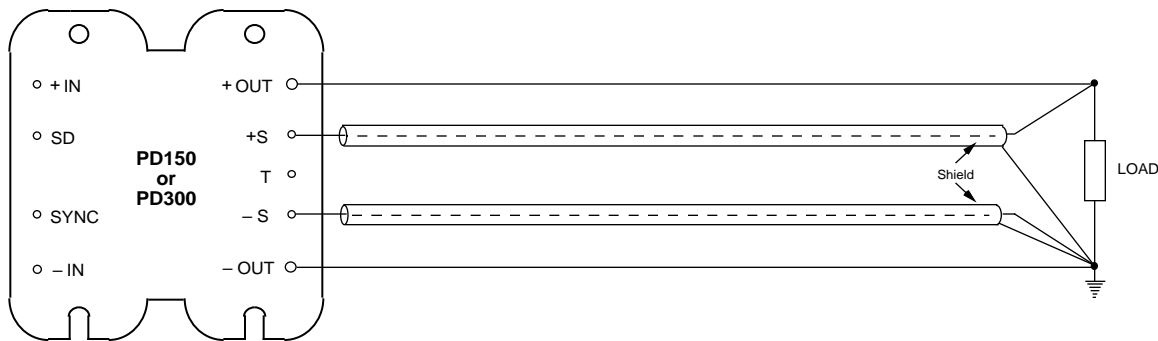
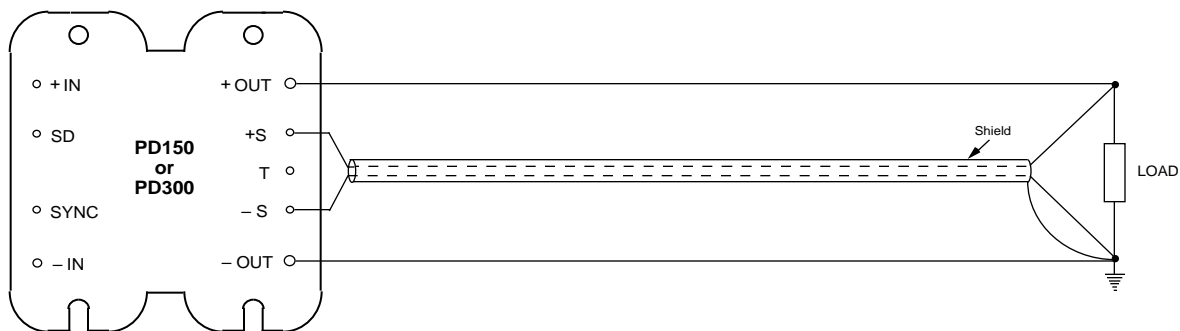
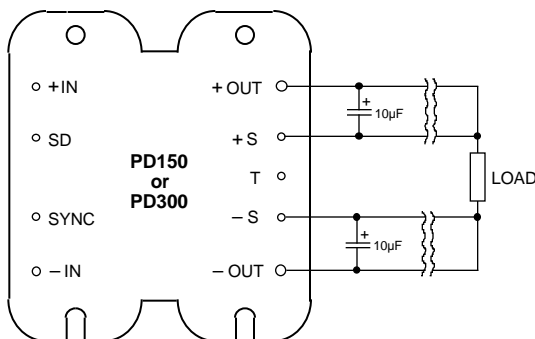

Figure 5. Remote Sensing Connections (using separate shields)
Figure 6. Remote Sensing Connections (using single shield)
Figure 7. Long-Load Connection
Connection of the sense leads is shown in Figures 5 and 6. There is one lead for each output terminal, designated as +S and –S. Compared to the load leads, the sense leads carry very low current and are usually shielded as shown to prevent noise pickup by the regulation circuit of the power supply. The current fed back from the load will adjust the output of the converter to keep the voltage constant at the load. The shielding on the sense leads is used to prevent the noise pick-up and is needed only if the load is more than three (3) feet from the DC-to-DC converter or in a highly noisy environment. Two separate shields for each sense lead (Figure 5) or a single shield for both sense leads (Figure 6) may be used. The PD150 can compensate for load conductor drops of up to 0.5V by producing a higher output voltage at the supply terminals, so that the voltage at the load is precisely the correct value. If the voltage drop across the output lines is greater than 0.5V, the remote sense network will not be able to compensate for it.
For applications where the load is too far away (12 feet or more) from the power supply, the inductance from long lines together with capacitance at the load could cause instability. This can be compensated for by using two by-pass tantalum capacitors (approximately 10µF) one between + OUT and + S pins and second between – OUT and – S pins (Figure 7). Also, the sense leads should be shielded as shown in Figure 5 or Figure 6.